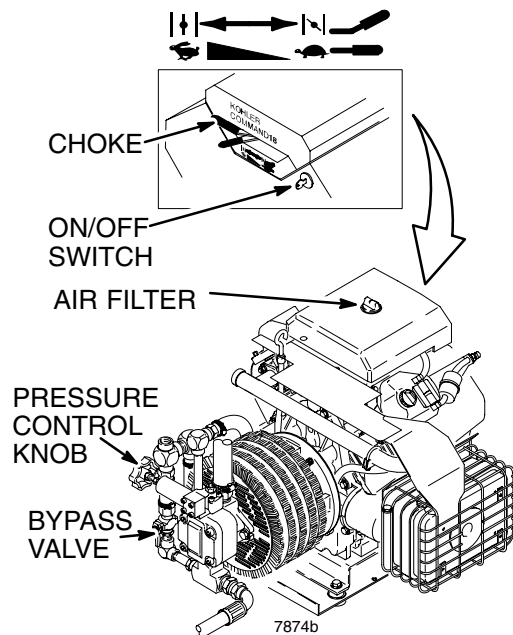

Fig 6
- a. Open the bypass valve to make startup easier. In the open position, the valve lever is parallel to the body of the valve. See Fig 6. Close the filter drain valve.
- d. If the engine is cold, close the choke by moving the choke lever. See Fig 6.
3. Turn and hold the ignition key to START until you hear the engine "catch", then release the key to RUN. See Fig 6. If the engine does not start, open the choke a little (move choke lever). If the engine floods, open the choke all the way and try again.
- e. After the engine is warm, gradually open the choke lever (move choke lever) and close the bypass valve. See Fig 6.
To stop the engine in an emergency, turn OFF the ignition key. Close the bypass valve if possible. See Fig 6. Then follow the **Pressure Relief Procedure Warning** on page 10.
- Squeeze the trigger and *slowly* turn the pressure control knob *clockwise* just enough to start the pump. See Fig 6.